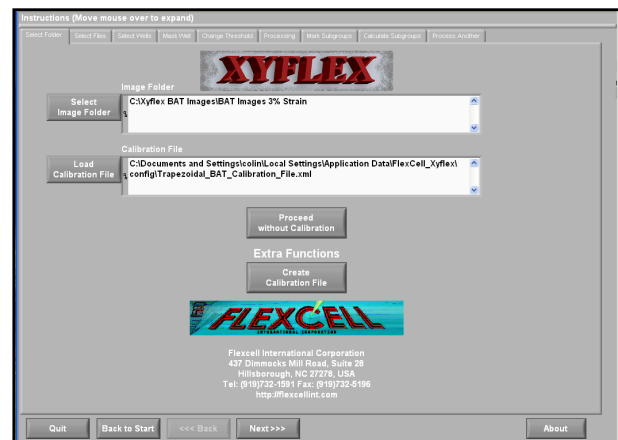

Figure 17. Image folder and calibration file selection.
2. The selected directory should appear in the XyFlex™ window (Fig. 17) next to the *SELECT IMAGE FOLDER* button.